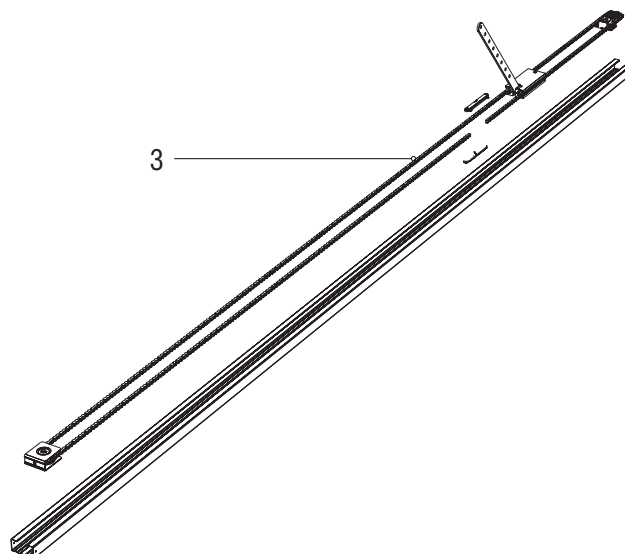

Figure 3
4. Remove a chain with a carriage mechanism, pos. 3 (fig. 3).